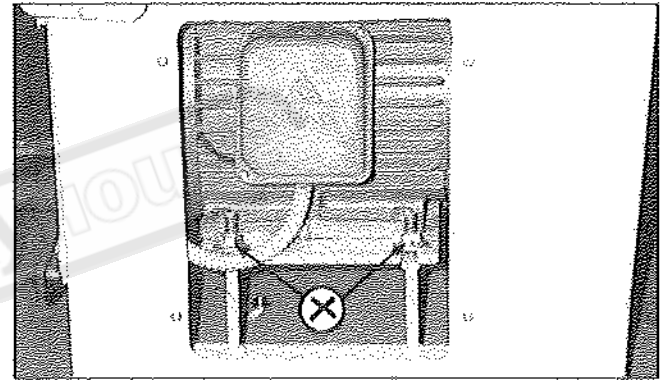

Fig.22
To alter belt tension, remove the cover plate in back of headstock plinth and adjust the two screws (X) on the hinged motor platform (Fig.22).